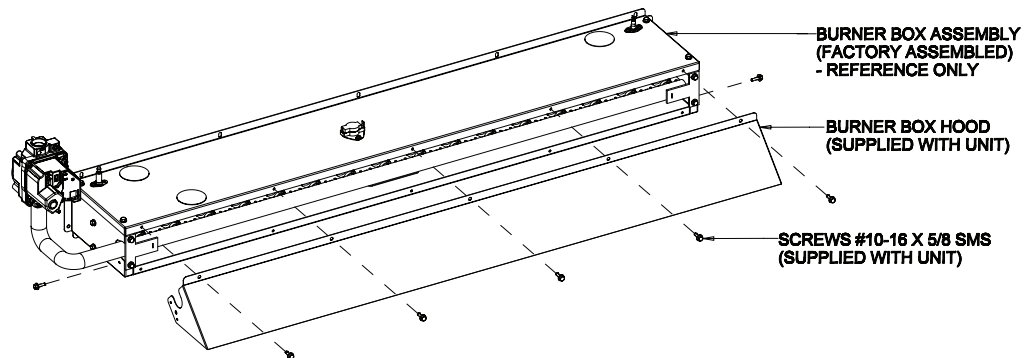

FIGURE 3
- 9 - Install the burner box hood. See figure 3.